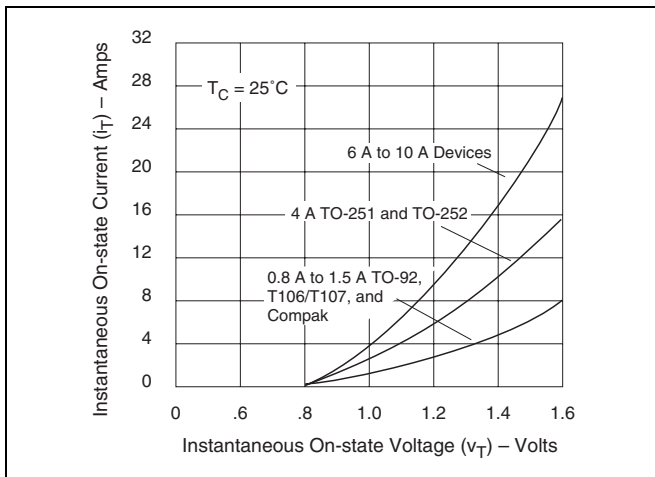

Figure E5.11 Instantaneous On-state Current versus On-state Voltage (Typical)
- See Figure E5.11 for instantaneous on-state current (iT) versus on-state voltage (vT) TYP.